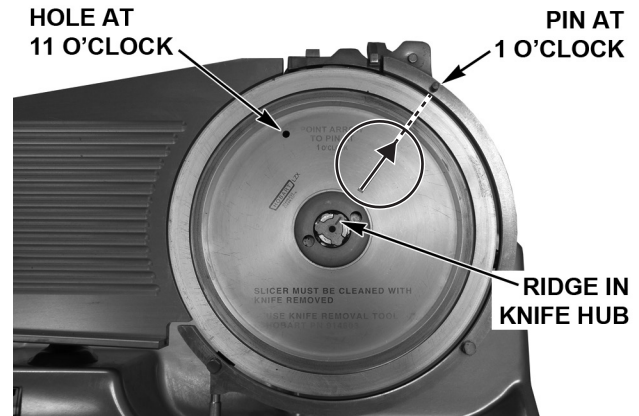

Fig. 11
- Ensure the gauge plate is closed, then rotate the Knife by hand to align the arrow on the Knife with the Pin on the Ring Guard at the 1 o'clock position (Fig. 11). The ridge on the Knife Hub will also align with the same pin.